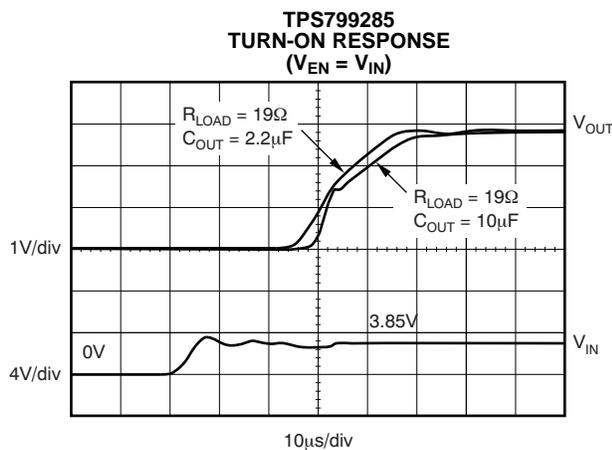
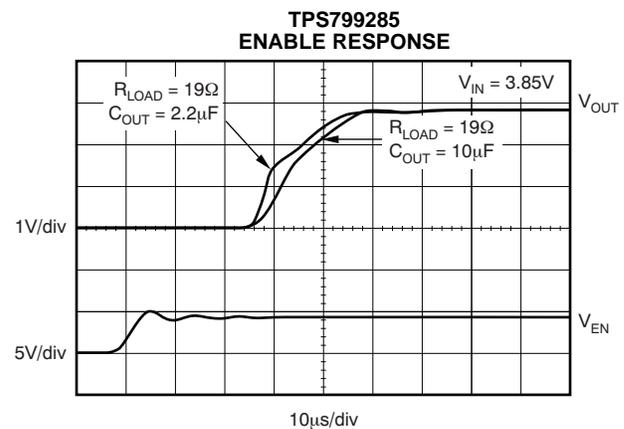

Figure 25.
Figure 26.
Note that for fastest startup, V_{IN} should be applied first, then the enable pin (EN) driven high. If EN is tied to IN, startup will be somewhat slower. Refer to Figure 25 and Figure 26 in the *Typical Characteristics* section. The quick-start switch is closed for approximately $135\mu\text{s}$. To ensure that C_{NR} is fully charged during the quick-start time, a $0.01\mu\text{F}$ or smaller capacitor should be used.